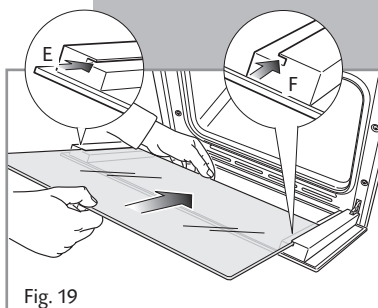
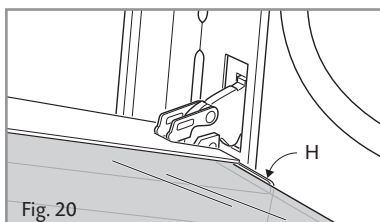

Fig. 19
Fig. 20
- Insert the pane in the left **E** and right **F** slide guides (fig. 19), and gently slide it to the retainers **H** (fig. 20).